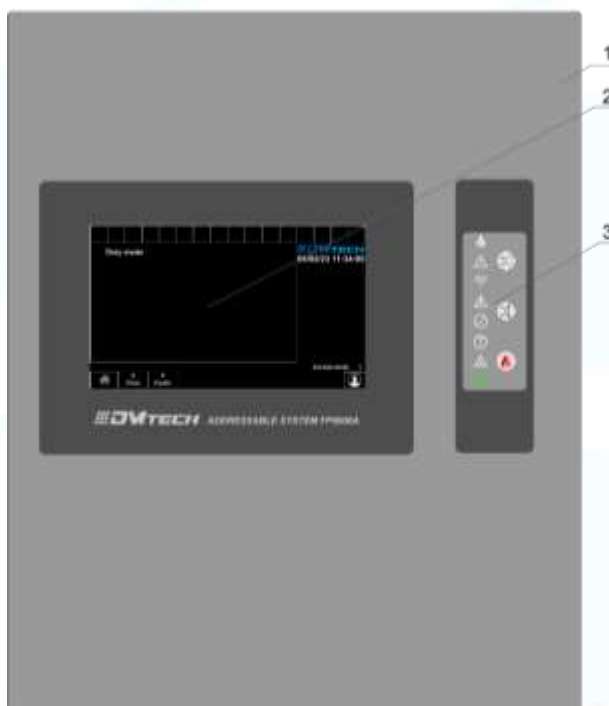

Fig.1
- 3. Characteristics** - in fig. 1 presents the front panel of the FP9000A-R addressable "Repeater" - control and indication panel. Position 1 – front cover; 2 – 7" Touch Display 800x600; 3 – Panel with indication and additional buttons;